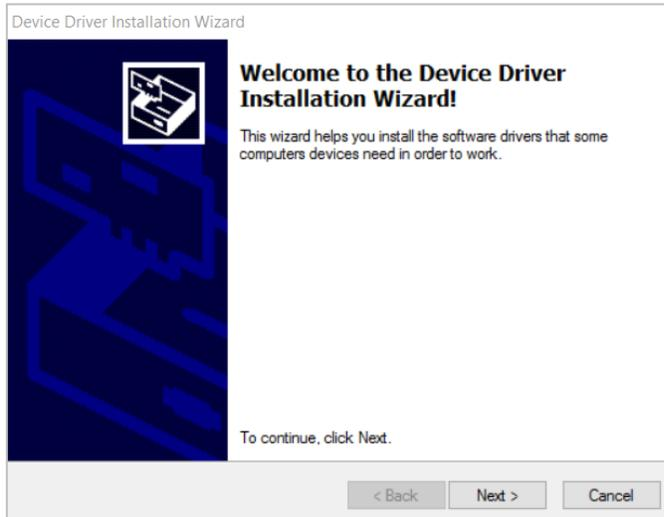

Figure 2-4: Install FTDI CDM Driver
7. Click the **Next** button as Figure 2-4 shows.